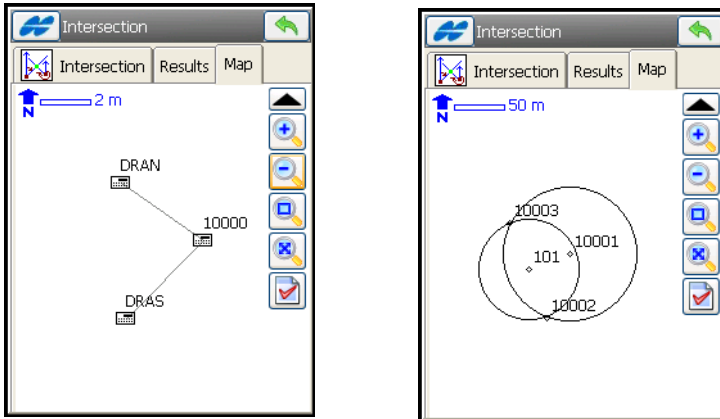

Figure 14-18. Intersection – Map Tab
- *COGO Point* – enter the name and code for the resulting point of the calculation. If Distance is specified for any known point in the *Intersection* tab, there will be two solutions for the *Intersection* calculation (Figure 14-18 on page 14-14).
The *Map* tab shows the solution of the task graphically. The right hand picture shows two solutions for the *Intersection* calculation. (Figure 14-18)